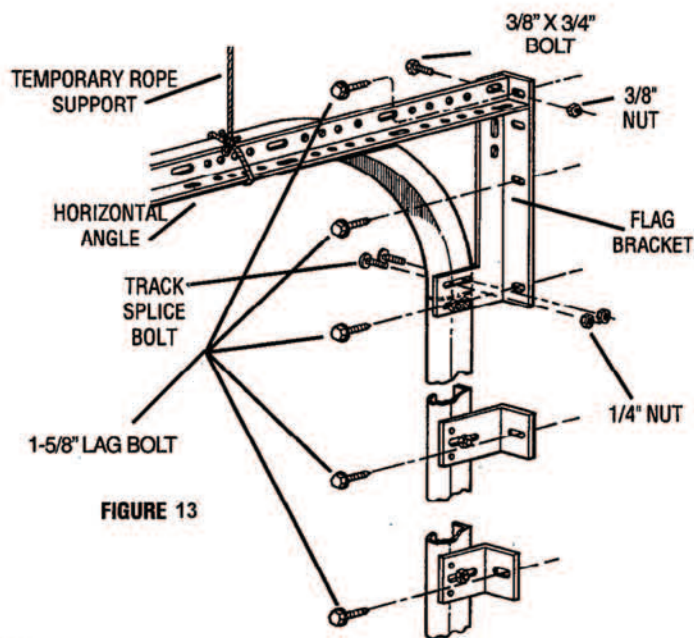
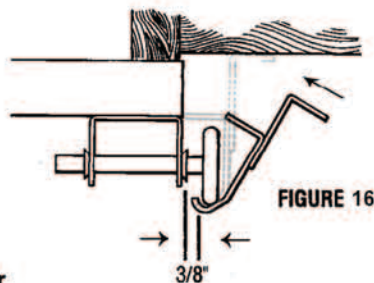

FIGURE 13
FIGURE 16
Step 13 Hook the straight vertical track over rollers on door. Maintain 3/8" space between door edge and vertical track (Fig. 16). Tops of vertical track must be level with each other. To determine- measure from top of tracks to top of door on each side. If not level, raise lower track but not higher than lowest roller. Vertical tracks must be plumb. When properly aligned, securely fasten jamb brackets and flag bracket to jambs with 5/16" x 1-5/8" lag bolts (Fig. 13). Pre-drill 3/16" hole to prevent splitting.
Step 14 Install horizontal angle to horizontal track using 1/4" x 5/8" track splice bolts and nuts (if not already done). Place horizontal track assembly in position using a temporary rope or wire support from trusses to support back end. Slip curved end of horizontal track over top roller and attach it to flag bracket using 2 (1/4" x 5/8") track splice bolts (Fig. 13). Attach end of horizontal angle to top of flag bracket with 1 (3/8" x 3/4") LSC bolt and 3/8" nut (Fig. 13).